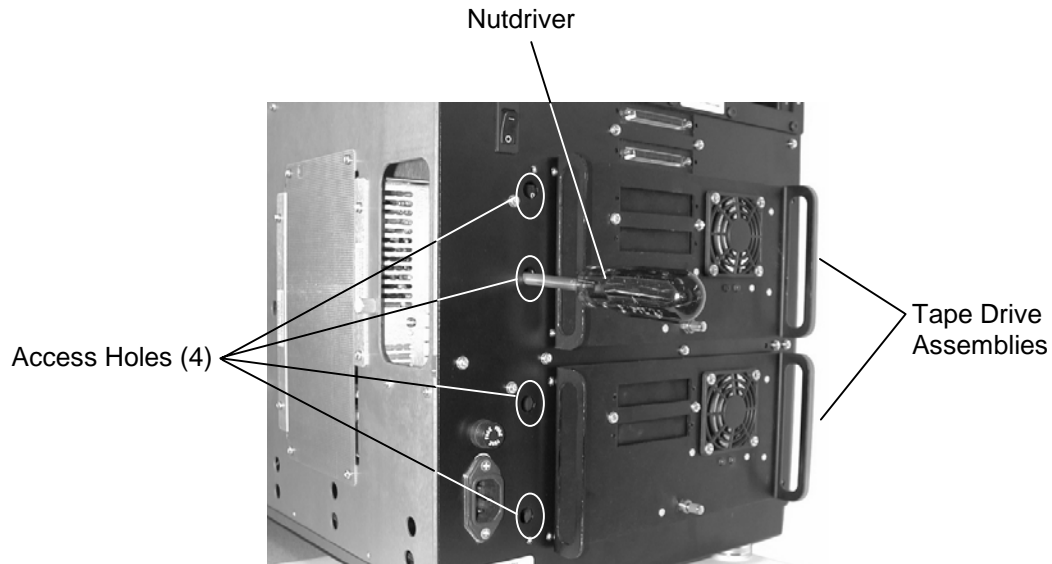

Figure 7-53 82xx Series Drive Bay PCBA with Tape Drive Assemblies
4. Install two tape drive assemblies into the TLS being careful to align the Tape Drive Connector's on the Drive Bay PCBA with the mating connector's on the tape drive assemblies. It may be necessary to move the Drive Bay PCBA to properly align the connectors (Figure 7-53). Refer to Chapter 5 in the Installation and Operation Manual (Qualstar document number 501450) for more information on tape drive assembly installation.
6. With a 1/4-inch nutdriver (a magnetic nutdriver works best) reach through the four access holes in the rear of the TLS and tighten the PCBA Mounting Nuts onto the PCBA Mounting Studs (Figure 7-53).